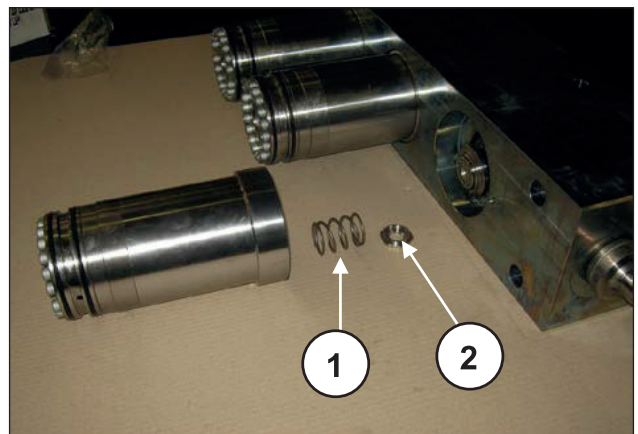

Fig. 175
During disassembly of the liners, take care not to disperse the valve springs and the flat valves (pos. ① and ②, Fig. 175) which, being only laid down, could fall.